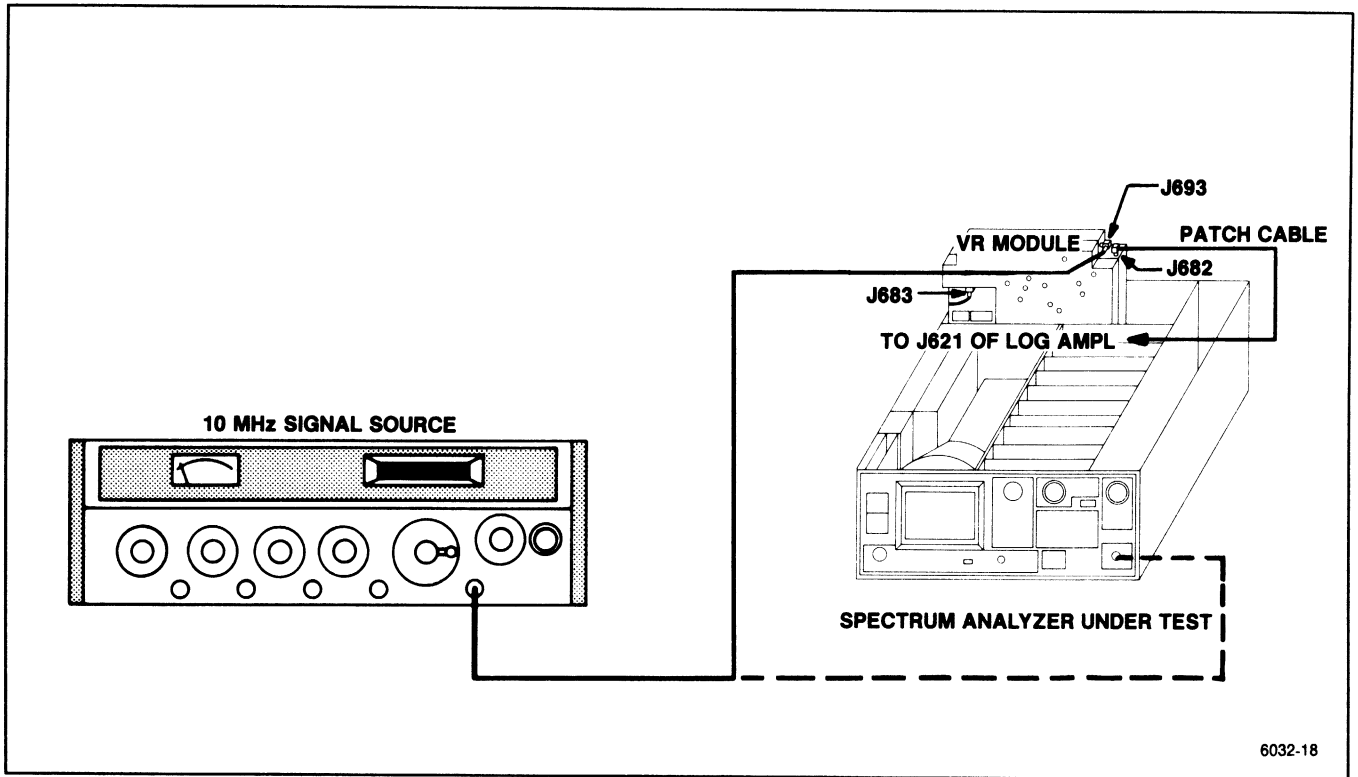
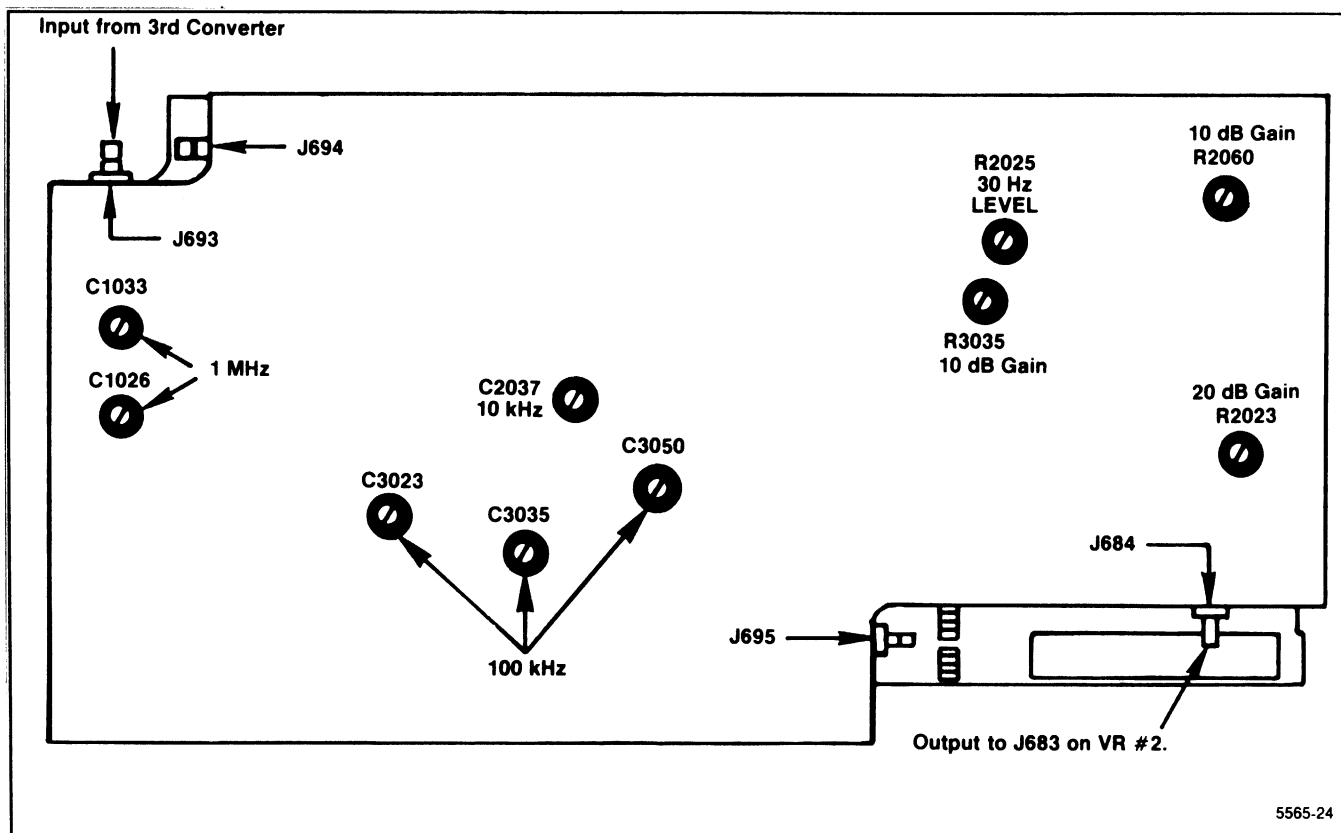

Figure 5-16. Test equipment setup for adjusting the Variable Resolution module.
Figure 5-19. Adjustments on the rear of the Variable Resolution module.
a. Equipment setup is shown in Figure 5-16.
(1) Remove and install the Variable Resolution module on an extender.
(2) Use a Seaelectro male-to-male adapter and coaxial cable to connect the 10 MHz IF output signal, from the 3rd Converter, to the input of the second section (connect between P693 and J683).
h. Disconnect the 10 MHz third converter IF signal from J683 and reconnect it to J693 (see Figure 5-19). Connect P683 to the input of the Log Amplifier at J621 through a Seaelectro male-to-male adapter and coaxial cable (Figures 5-16 and 5-17).
k. Adjust C2037 (Figure 5-19) for the best 10 kHz response centered about the 1 kHz reference.
a. Before adjusting the Variable Resolution gain and band leveling, set the correction factors to zero by pressing <SHIFT> 7 and selecting menu item 2 "SET RESULTS TO UNCALD".
b. Test equipment setup is shown in Figure 5-16. Set the Spectrum Analyzer controls as follows:
n. Adjust C3050, C3035, and C3023 (Figure 5-19) for the best 100 kHz response centered about the 10 kHz filter reference. o. Set the RESOLUTION BANDWIDTH to 1 MHz, FREQ SPAN/DIV to 500 kHz.
p. Adjust the 1 MHz filter response and centering with C1033 and C1026 in the VR Input board (Figure 5-19). Deactivate SAVE A.
e. Disconnect P693 (Figure 5-19) and activate MIN NOISE. Apply a 10 MHz,  $-25$  dBm signal, from the signal generator, through a bnc-to-Seaelectro adapter to J693. Set the generator frequency to peak the signal amplitude. (Signal amplitude should be between 3.5 and 6.5 divisions. If signal amplitude is not within these limits it indicates a gain problem in the Variable Resolution module.)
board (Figure 5-19) so the signal amplitude is 7 divisions.
i. Change the generator output to  $-45$  dBm, the REF LEVEL to  $-40$  dBm, and adjust the 20 dB Gain R2023 on the 20 dB Gain Step board (Figure 5-19) for a 7 division signal amplitude.
j. Change the generator output to  $-65$  dBm, the REF LEVEL to  $-60$  dBm, and adjust the 10 dB Gain R2060 on the 20 dB Gain Step board (Figure 5-19) for a 7 division signal amplitude.